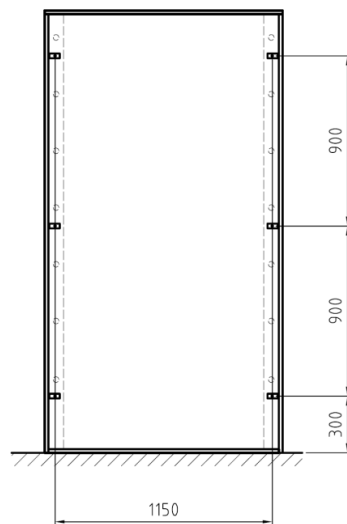

Figure 4: Drilling dimensions for wall mounting
Once assembled, attach the frame to the wall using the brackets (5) and the relevant nuts, bolts, washers, screws and wall plugs. Don't forget to check the wall for potential obstacles, such as pipes or electrical cables. We recommend using the drilling dimensions shown in figure 4, provided there are no interfering objects. If there are, the drilling points should be slightly offset.